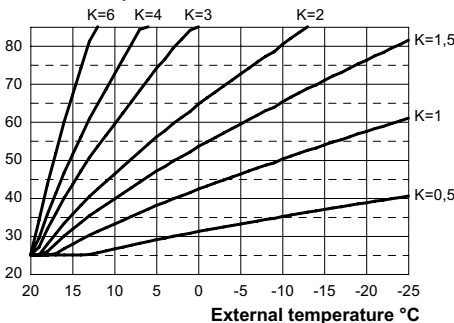

Fig. 8.6
If the boiler is **EQUIPED** with the remote control (optional) refer to Fig. 8.6. In this case K setting must be done from the remote control.
The K coefficients is a parameter that increases or reduces the boiler flow temperature when the outside temperature changes. When installing the external probe it is necessary to set this parameter based on the efficiency of the heating system in order to optimise the flow temperature (Fig. 8.6).
E.g. In order to have a flow temperature at the heating system of 60°C with an external temperature of -5°C, set a K at 1.5 (sectioned line in Fig. 8.6).
- Using keys 18 or 19 it is possible to change the value of parameter 15 from a minimum of **01** to a maximum of **60** based on the selected bend of the K coefficient in Fig. 8.6 (the value read on the display corresponds to K coefficients decimal values). The writing **P15 - Set** alternates on the dis-